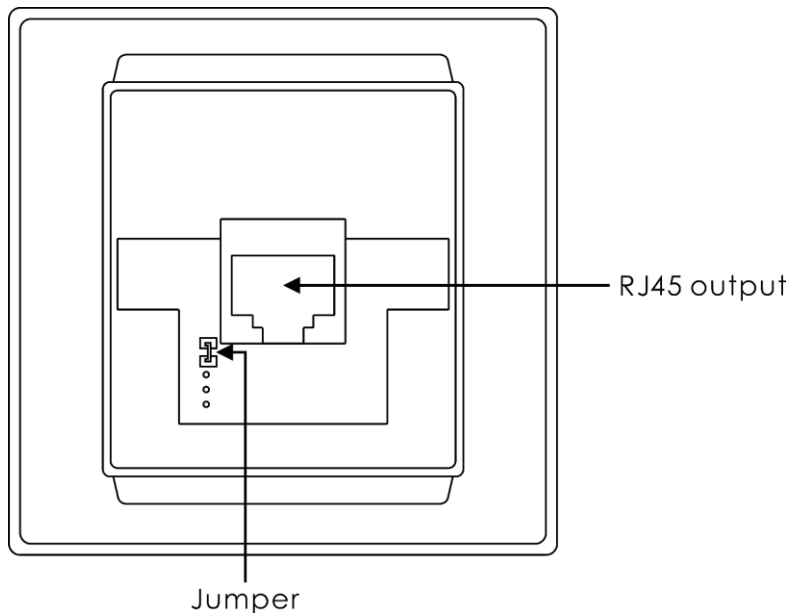

Fig. 16
- 02) Install the wall panel in two ways, with or without the jumper. See Fig. 16.